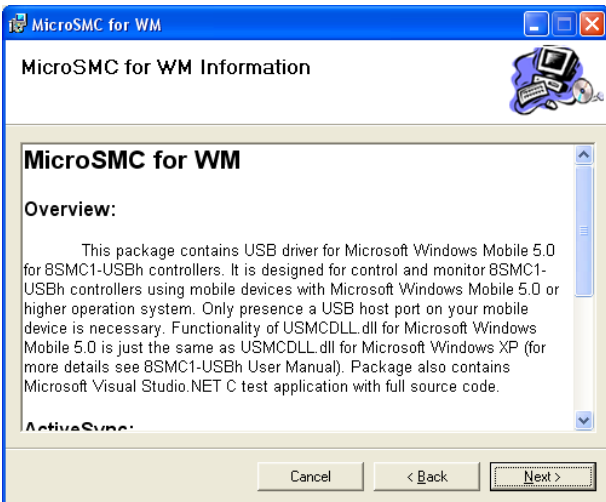

Figure 53. MicroSMC for WM host PC installation 2nd screen
- Read carefully this screen (see Figure 53) and press the “Next>” button.